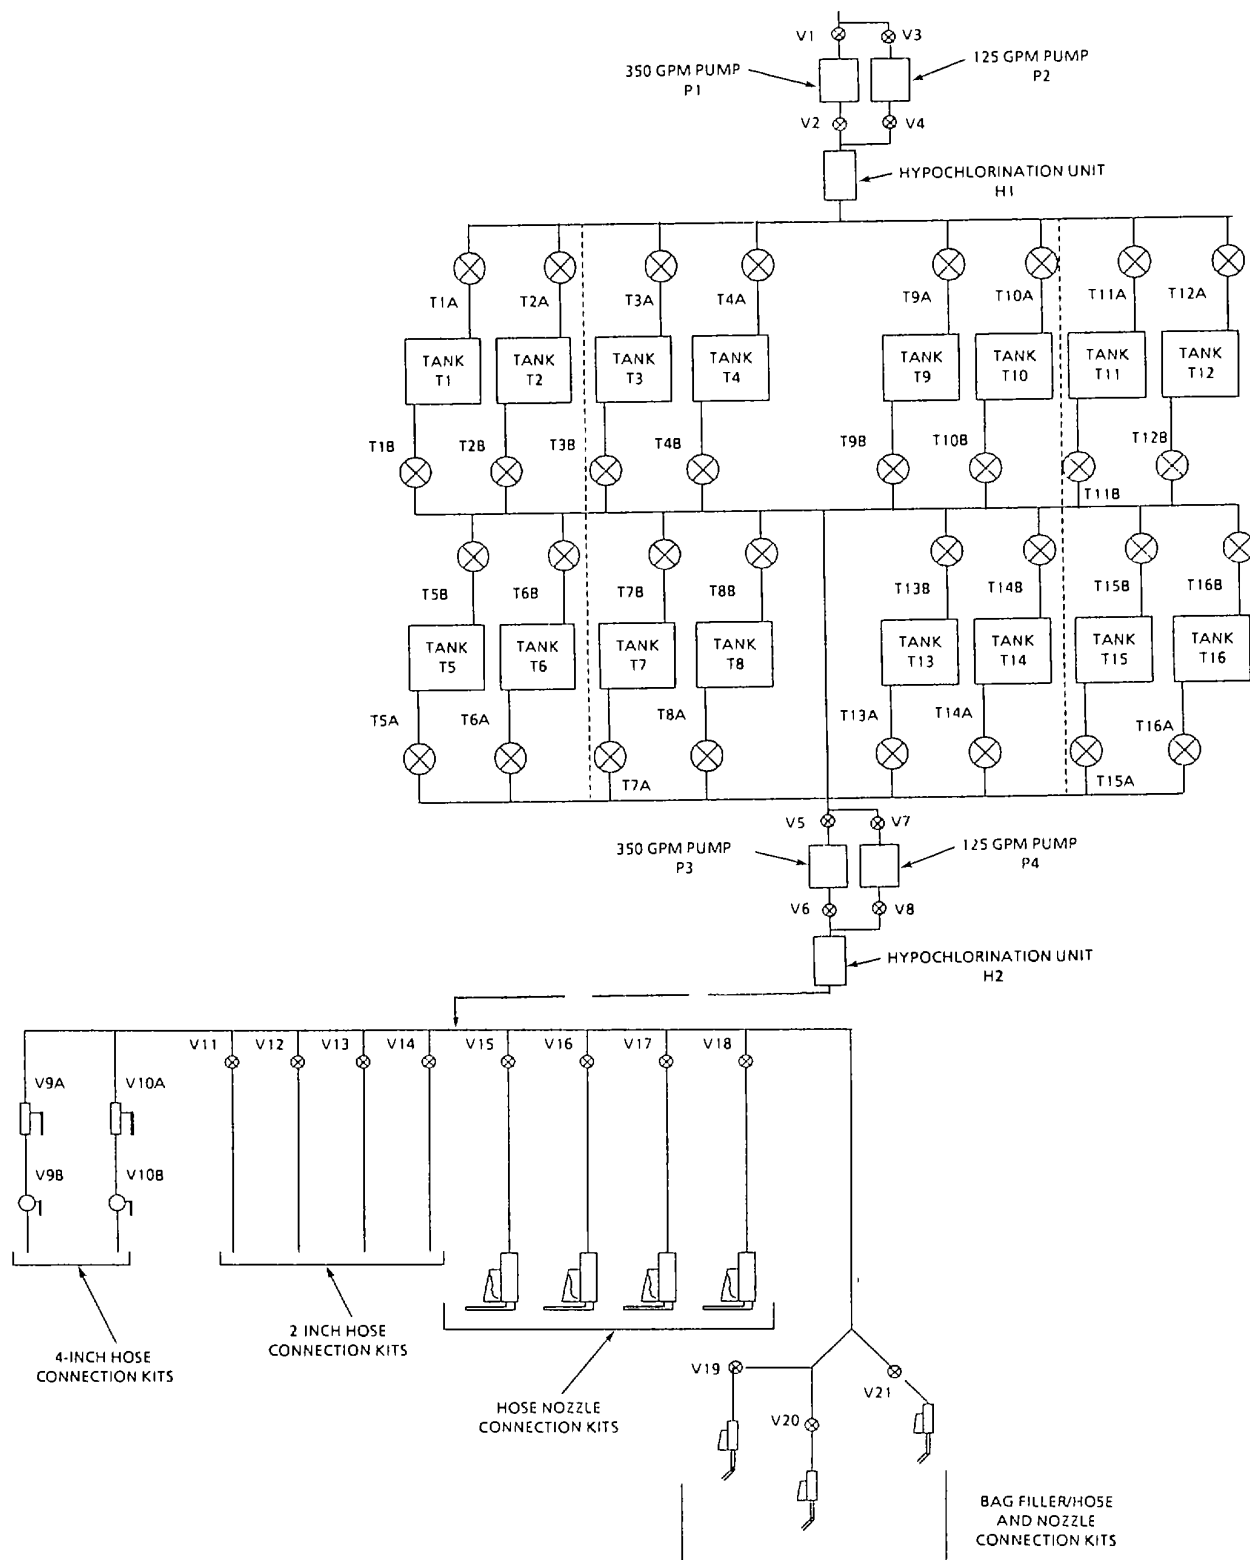

Figure 2-24. Water System Control Valves.
- b. Water System Diagram. Refer to figure 2-24. Water flow to and from the collapsible fabric tanks is controlled by gate valves identified by the prefix "T". The number following the prefix tells which tank it controls. The suffix "A" indicates that the gate valve controls water flow to the tank. The suffix "B" indicates the gate valve controls water flow from the tank. By opening or closing the respective "A" (inlet) or "B" (outlet) gate valves, the tanks may be filled or discharged.
- c. Startup. Refer to figure 2-24.
Discharge Mode Refer to figure 2-24.
d Shutdown Refer to figure 2-24.